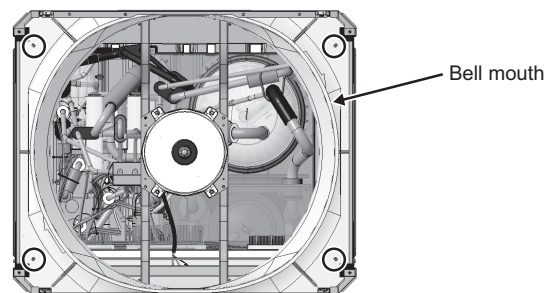

Fig. 8
- (8) Remove the bell mouth. (Four screws: Fig. 8)